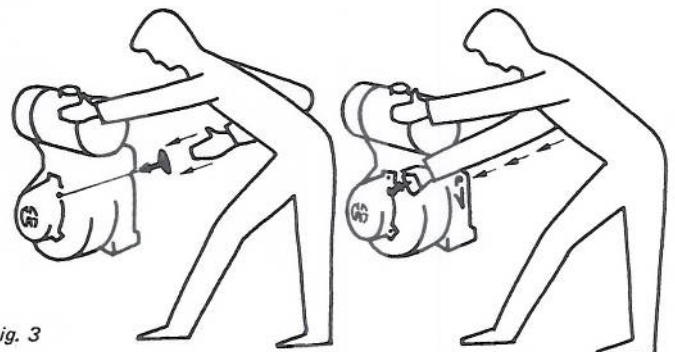

Fig. 3
- b) By means of a recoil starter: Pull strongly on the rope. After starting the engine, do not let the handle out of your hand but accompany it back to the starter housing (see fig. 3).